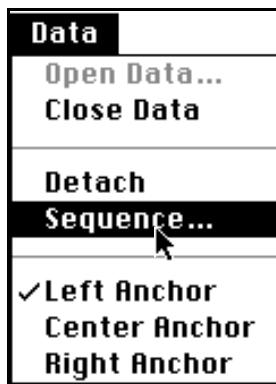

Figure 8-12 Data Menu - Sequence
2. Choose **Sequence** from the **Data** menu. See Figure 8-12.